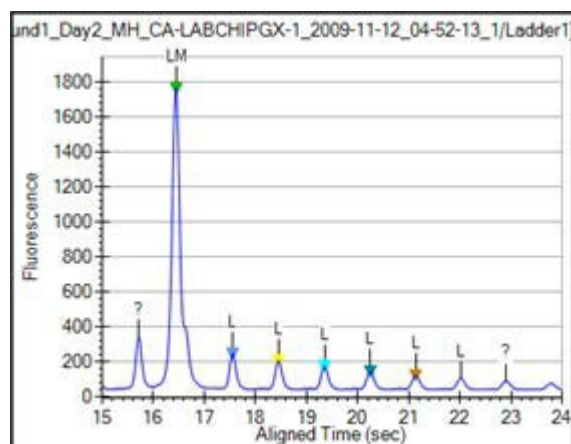

Figure 14. Ladder Graph - Glycan
- 4 A sizing ladder (see Figure 14), which consists of multiples of a basic sugar molecule, is run from the ladder vial before and after every 12 samples. The simplest molecule is assigned a size unit of 1 CGU (Caliper Glucose Unit). The sequence of ladder peaks is assigned integer size values, providing a migration time to size ruler for sizing other sugar molecules.